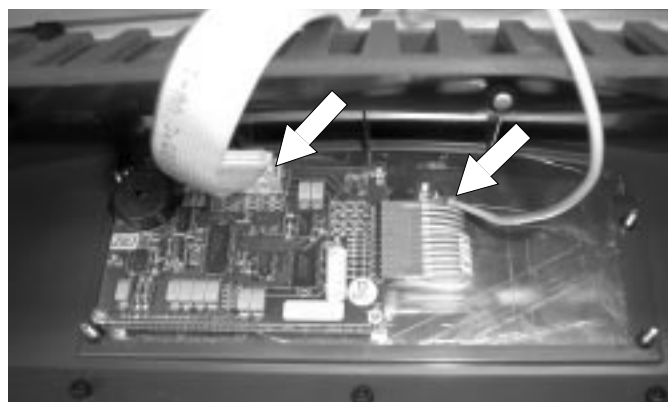

Fig. 52
- 3) detach the flat cable and ground wire from the keyboard (fig. 52).